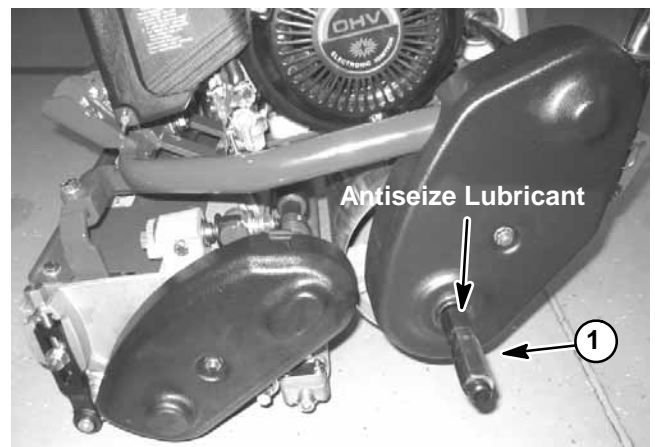

Figure 15
3. Apply antiseize lubricant to the exposed end of the wheel hex shaft (Fig. 15).